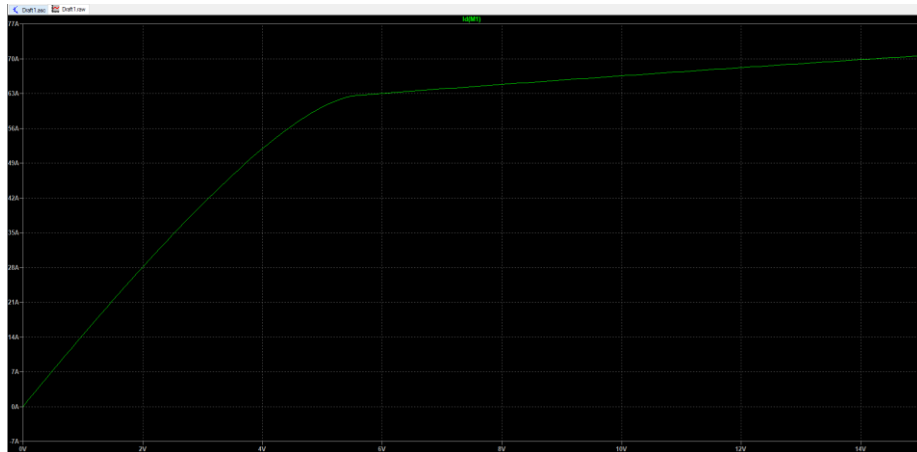

Figure 14:  $I_D$  vs  $V_{DS}$  ( $V_{GS} = 5V$ )
6. Set  $V_{gs} = 5V$ . Click  to set up the parameter, perform a DC sweep simulation by changing the  $V_{dd}$  from 0-15V with increments of 100mV. Then Plot the curve for  $I_D$  vs  $V_{DS}$ , first you will see nothing on the figure, then right click on the black area, choose **Add Traces**, then choose Id(YOUR MOSFET NAME), click OK, the curve will show on the screen, as Figure 14.